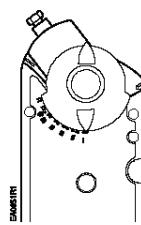

Figure 6.
- Place the position indicator to the "0" position on the outside scale. See Figure 6.
5. Remove the shaft adapter and insert it with the position indicator pointing to the mark on the scale calculated in the previous step. See Figure 6.